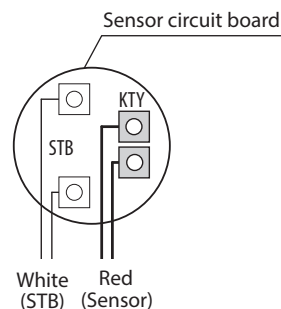

Fig. 9
4. The cables for the limiter (white) and the temperature sensor (red) are connected to the sensor circuit board according to Fig. 9.